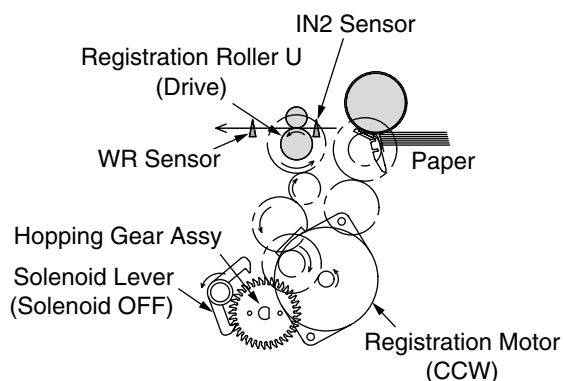

Figure 2-4
3. As shown in Figure 2-4, the register motor rotates (Counterclockwise turn) to let register roller U transport the paper. (As the register motor rotates counterclockwise, register roller U is driven.)